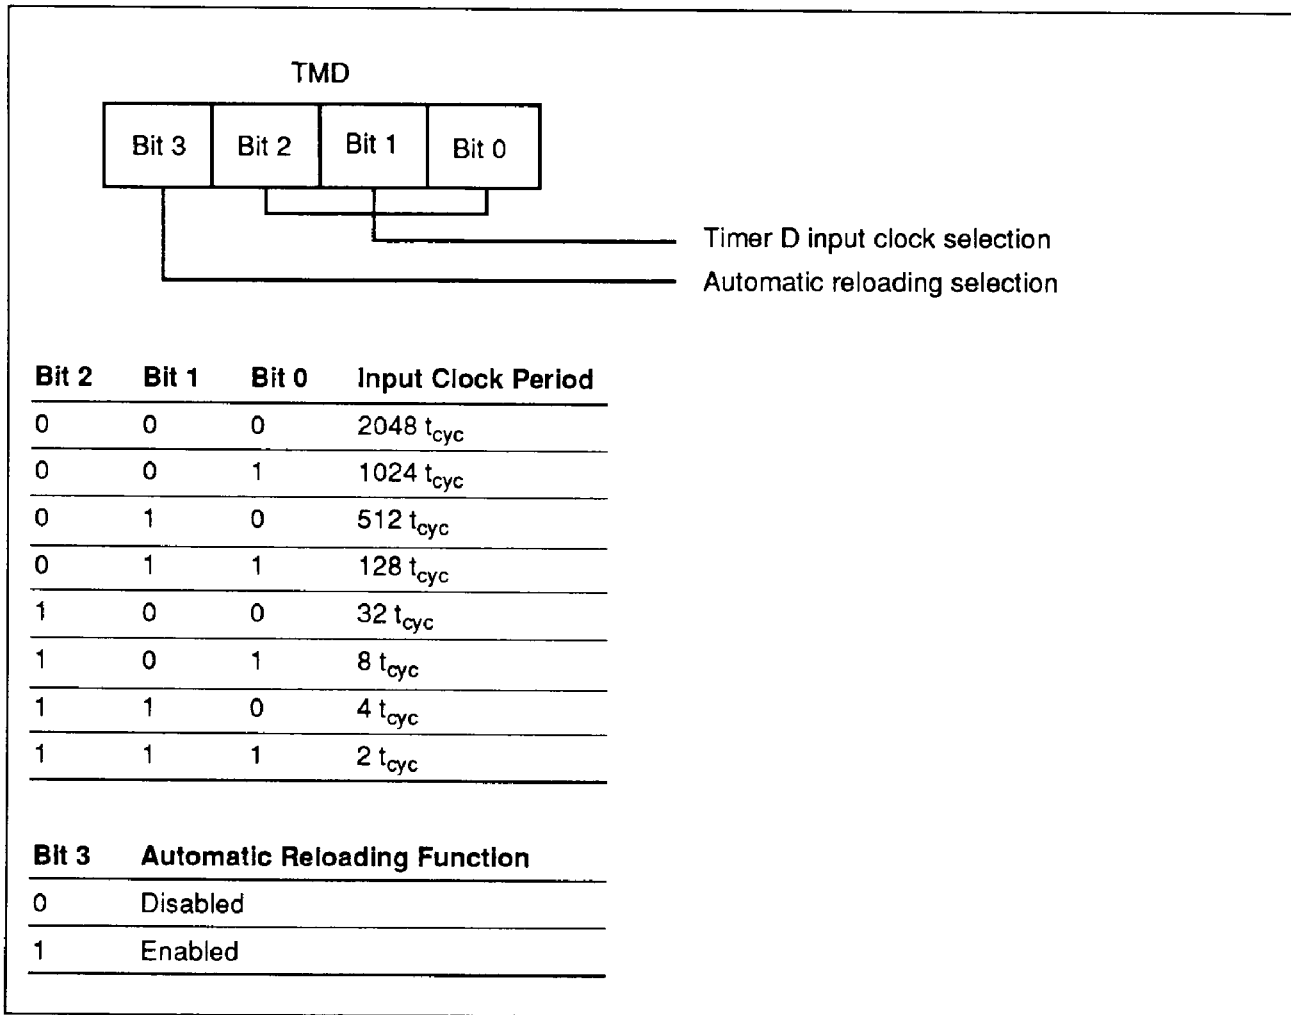

Figure 28 Timer Mode Register D
**Timer Mode Register D (TMD: \$010):** Four-bit write-only register which selects the automatic reloading function and the prescaler division ratio for timer D as shown in figure 28. It is initialized to \$0 by MCU reset.